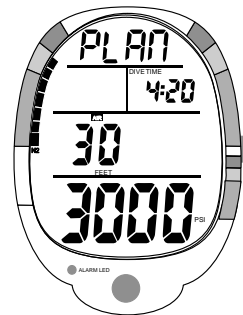

Fig. 17 - Air Mode Plan
**AIR MODE PLAN screen (Fig. 17)**